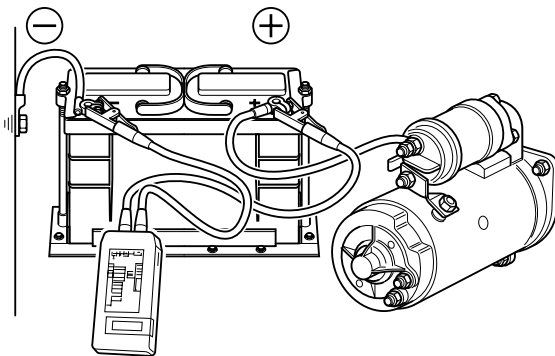

Fig 7.
- 1 Connect the voltmeter across the battery terminals. ⇒ Fig 7. \(C-10\). Reading in 'start' position: 10.0V approximately. Minimum permissible reading in 'start' position 9.5V.